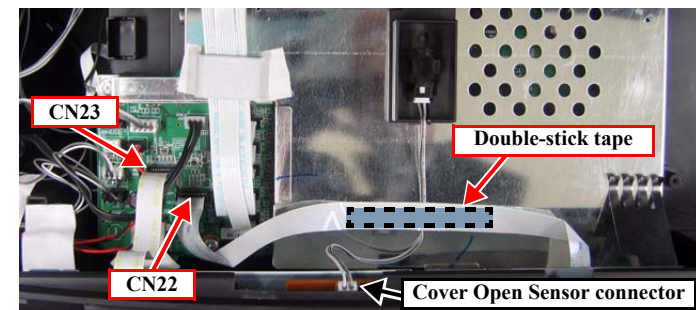

Figure 4-6. Removing the Panel Assy
5. Disconnect the Cover Open Sensor connector from the Panel Board. (Fig. 4-6)
7. Peel the FFC (CN23) of the Panel Board from the Main Board Assy, and remove the Panel Assy. (Fig. 4-6)